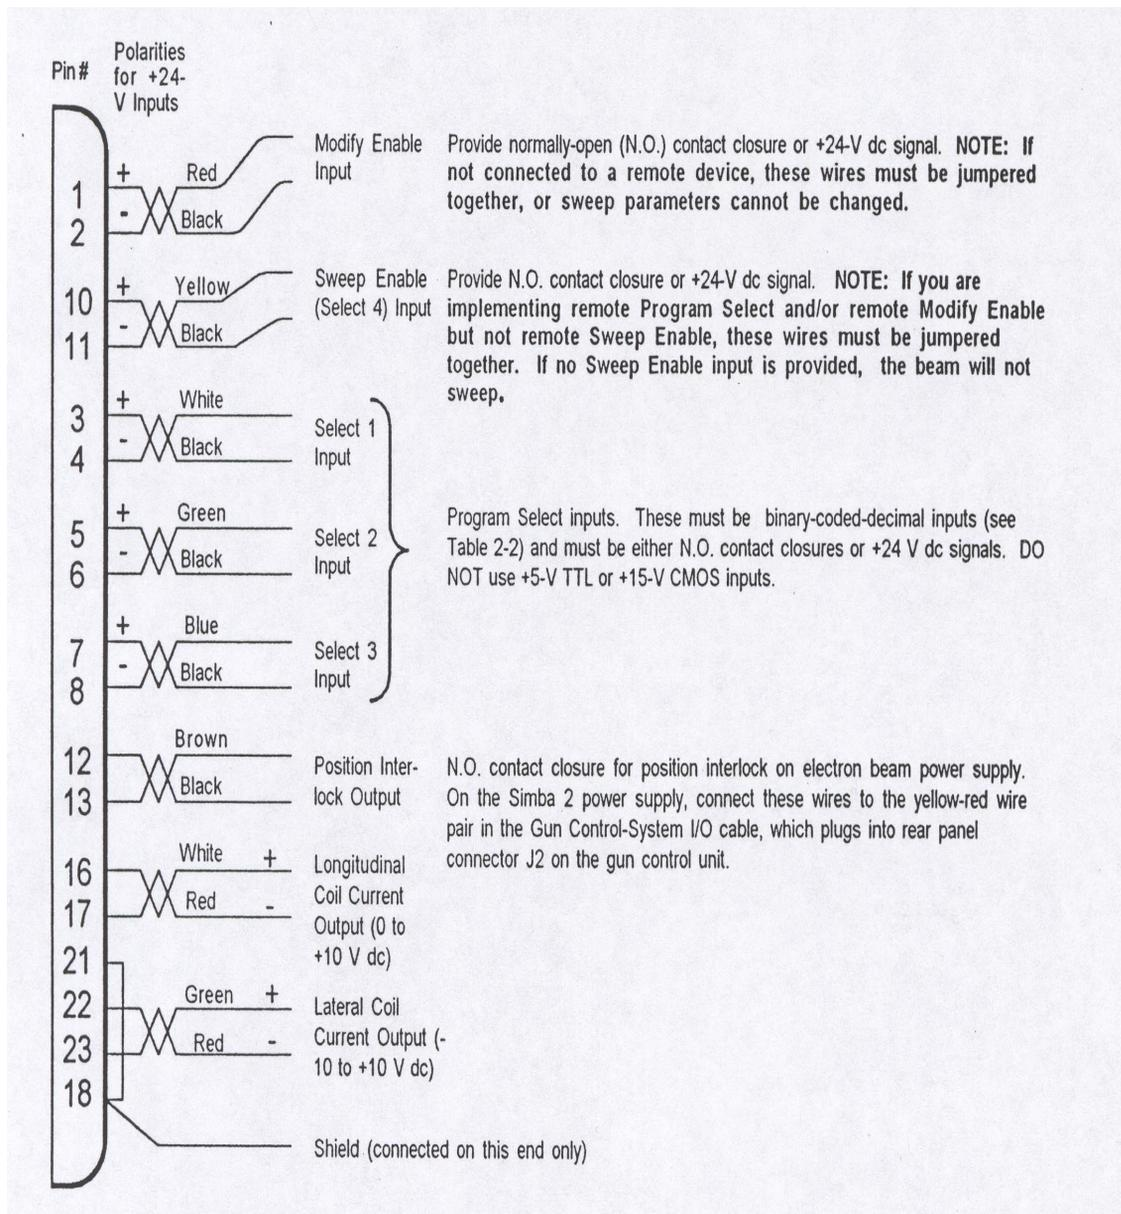

Figure 2-2. Remote I/Os Via the Sweep Interface Cable
This subsection provides instructions for making connections to remote devices via the Sweep Interface cable (PN 0040-4972-0), which plugs into rear panel connector J1. Figure 2-2 shows the color coding and the pinouts for the wires in this cable and provides specifications for the inputs and outputs.
3. Refer to Figure 2-2 to determine which wires to connect for the desired function.
5. If one or more of the control inputs is to be +24 VDC, follow the procedure described in subsection 2.3 to reconfigure control PC board #1 for the +24 V input(s). Note the polarities for +24 V inputs indicated in Figure 2-2.